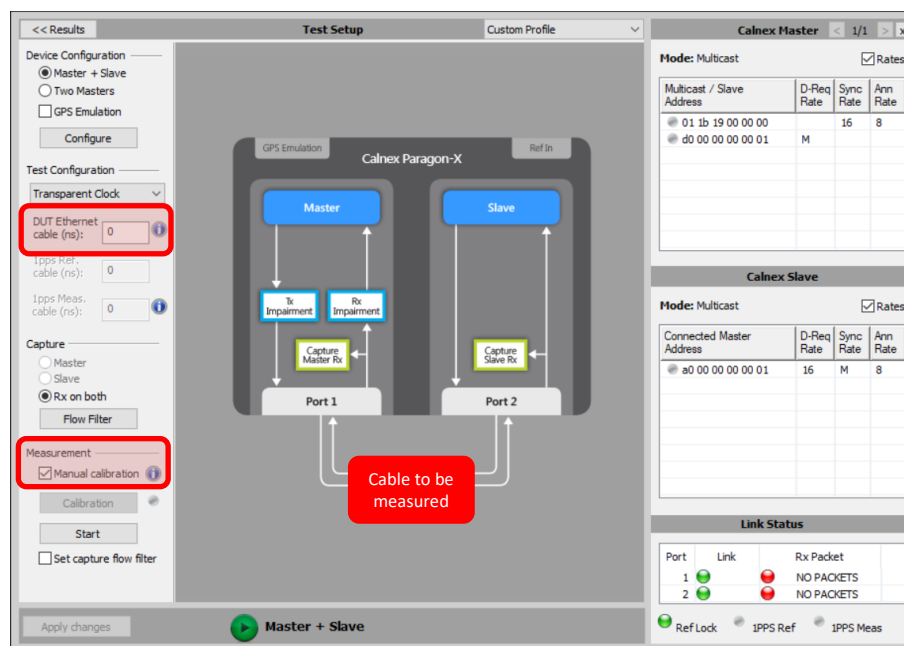

Figure 9
- a) Enable Master/Slave Emulation mode of Paragon-X then connect Port 1 to Port 2 with the cable to be measured. See Figure 9.